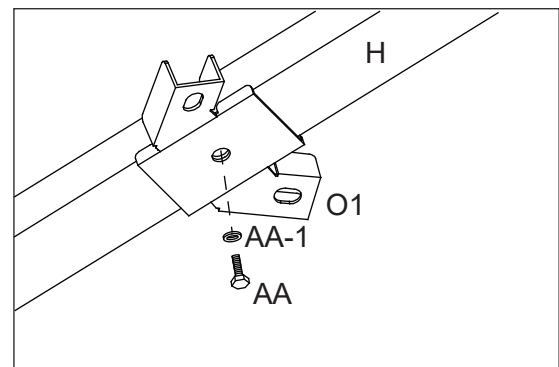

Figure 15-2
15.2: Attach Connector (O1) to Main Roof Corner Support (H) using Bolt (AA) and Steel washer (AA-1). See Figure 15-2.